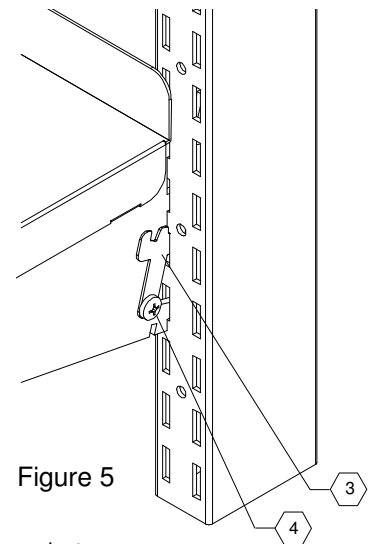
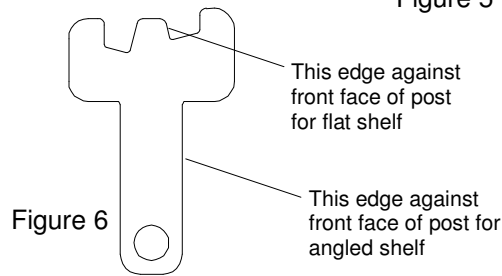

Figure 5
Figure 6
4. Insert forked end of security clip (item 3) into post, as shown in Figure 5, and rotate to align hole with hole in mounting bracket. Clips can be installed on either side of bracket. Figure 6 shows proper orientation of clip.
5. Secure clips to mounting bracket using (2) 10-32x1/4" pan head taptite screws (item 4), Figure 5